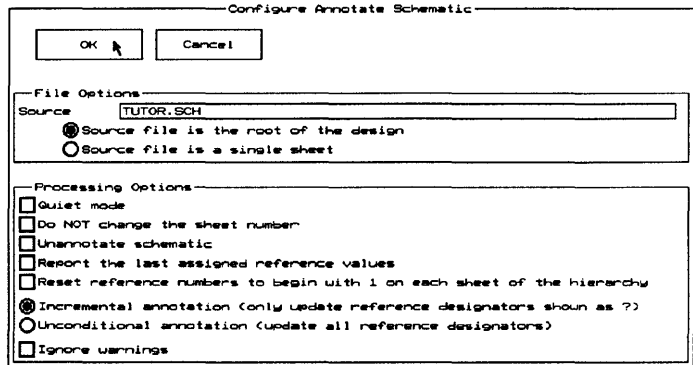

Figure 7-1. *Configure Annotate Schematic* screen.
2. Select **Local Configuration** and then **Configure Annotate Schematic**. The **Configure Annotate Schematic** screen displays (figure 7-1).